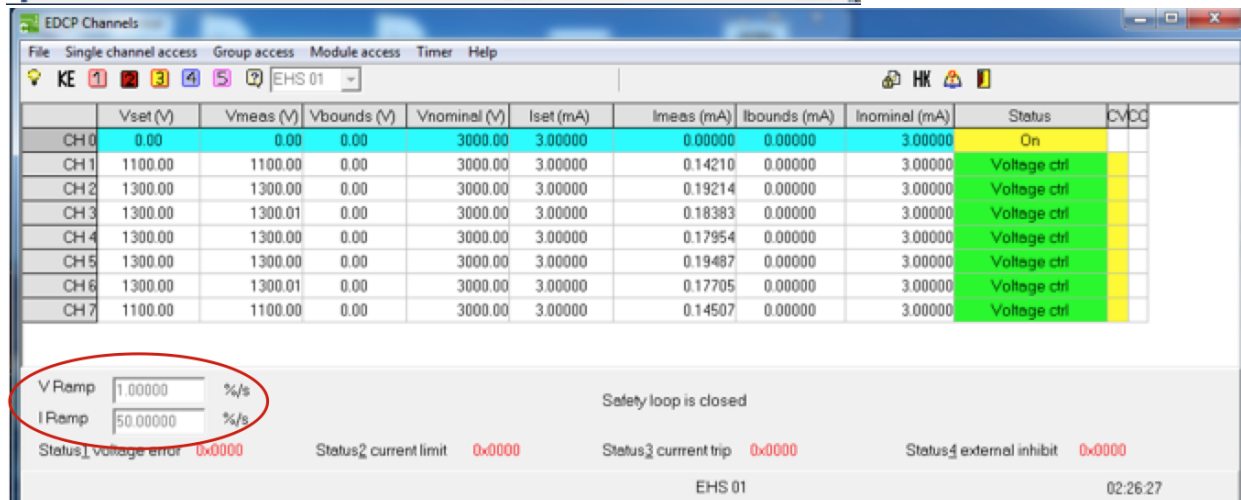

Figure 18. EHS/EHQ 00 and 01 iSEG Multi-Channel High-Voltage Modules Screens; VRamp and IRamp fields are circled in red.
8. Make sure the voltages (Vset) for ESQ00/EHS00 and EHQ01/EHS01 are set (Fig. 18). Modify the Vset fields as follows: